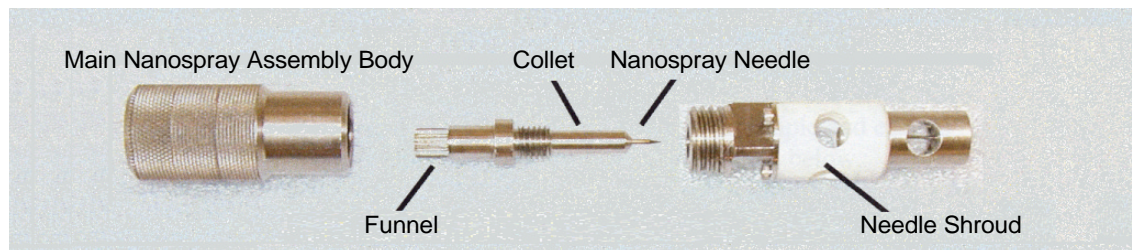

Figure 6-11 Preparing a Nanospray Needle
1. Use a micro-pipetter fitted with a gel-loader tip to deliver 1 to 3 μL of analyte solution through the larger diameter end of the tip into the Nanospray needle (Figure 6-11).
2. Slide the rear of the needle into the entrance of the collet and mount the collet onto the needle shroud (Figure 6-11).